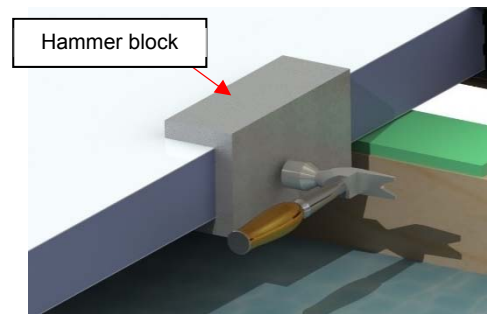

Figure 26
24) Use the hammer block to ensure the panel is fully engaged in the I-beam. Gently strike the **center** of the block and ensure the block is continuously in contact with the panel edge (Figure 26). Strike the hammer block on each side of the panel for a better fit on the panel (Figure 26).
- ♦ Ensure the hammer block is properly fitted to the foam panel before striking. Failure to use the hammer block properly could break the lamination of the fiberglass panel (Figure 26).
27) Use the hammer block to ensure the panel is fully engaged in the I-beam. Gently strike the **center** of the block and ensure the block is continuously in contact with the panel edge. (Figure 26)